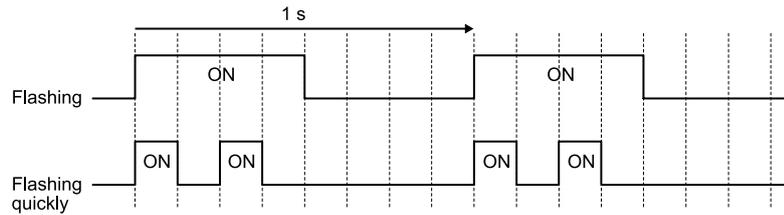

Figure 6.1 LED Flashing Statuses
*1 Refer to Figure 6.1 for the difference between flashing and flashing quickly.